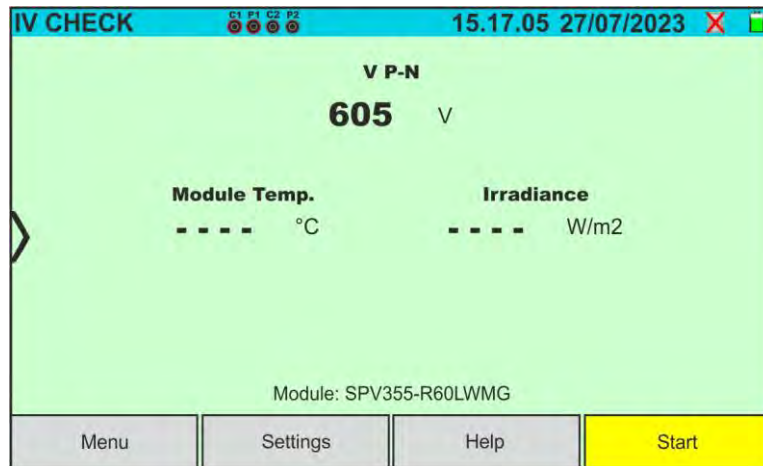

Fig. 46: Initial IVCK test screen without remote unit on Monofacial modules
4. In the case of **Monofacial** modules, the Fig. 46 screen is present on the display. The following parameters are shown: